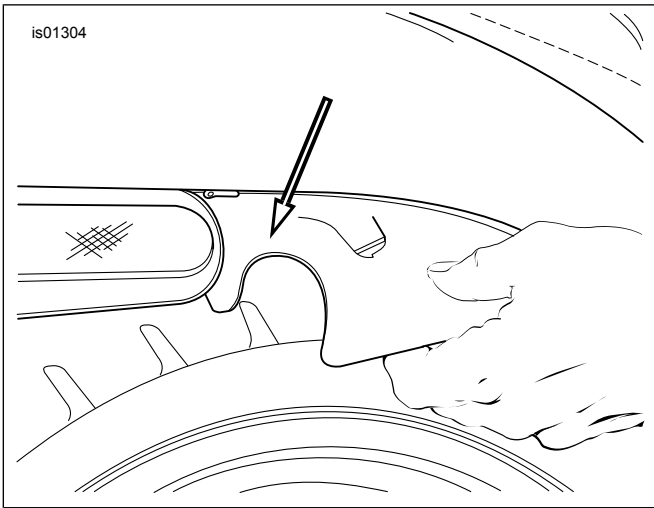

Figure 5. Lower the Splash Guard (2002-2006 VRSCA/B/D)
4. See Figure 5. Lower splash guard from installed position.